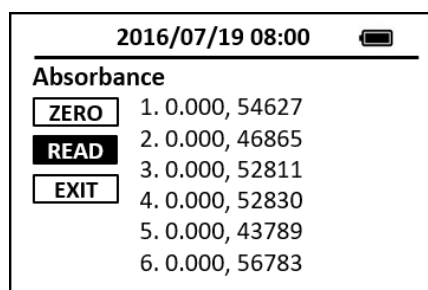

Figure 15. Absorbance Measurement
11. Press the **OK** key to measure the selected standard. High range turbidity calibration is successful. (Figure 15)